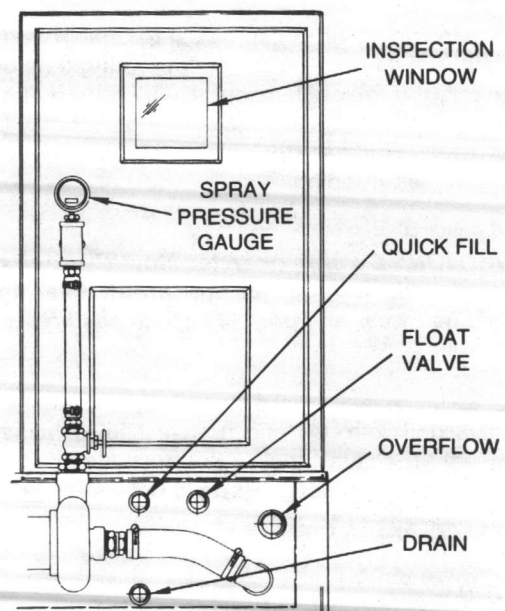

FIGURE 12 - Sprayed Coil Unit Tank Connections
1. Clean the spray tank and the spray pump return line strainer. See Figure 12.